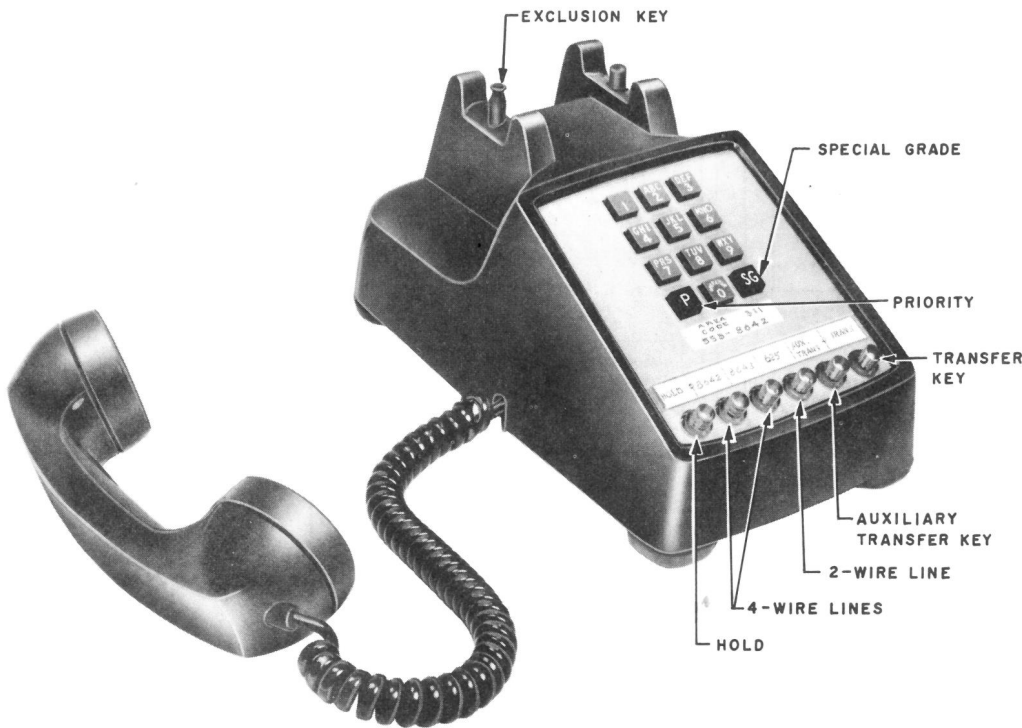

Fig. 2 — 568HT Telephone Set with Typical Arrangement of Pick-up and Signaling Keys
4.02 These sets are equipped, internally, with a relay which permits switching from 2-wire to 4-wire circuitry. The 6-button sets are also equipped with an exclusion key. In addition the 568HT (Fig. 2) and the 616-type sets are equipped with two additional buttons, colored red, designated P (priority) and SG (special grade) as part of the dial.